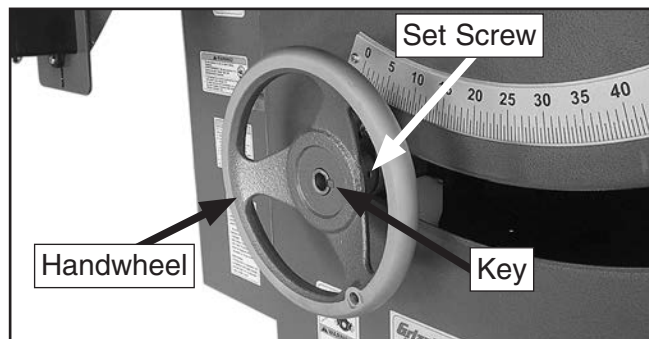

Figure 26. Blade height handwheel installed.
- Place included shaft key into keyway on handwheel shaft, slide handwheel onto shaft, then tighten set screw on side of handwheel (see **Figure 26**).